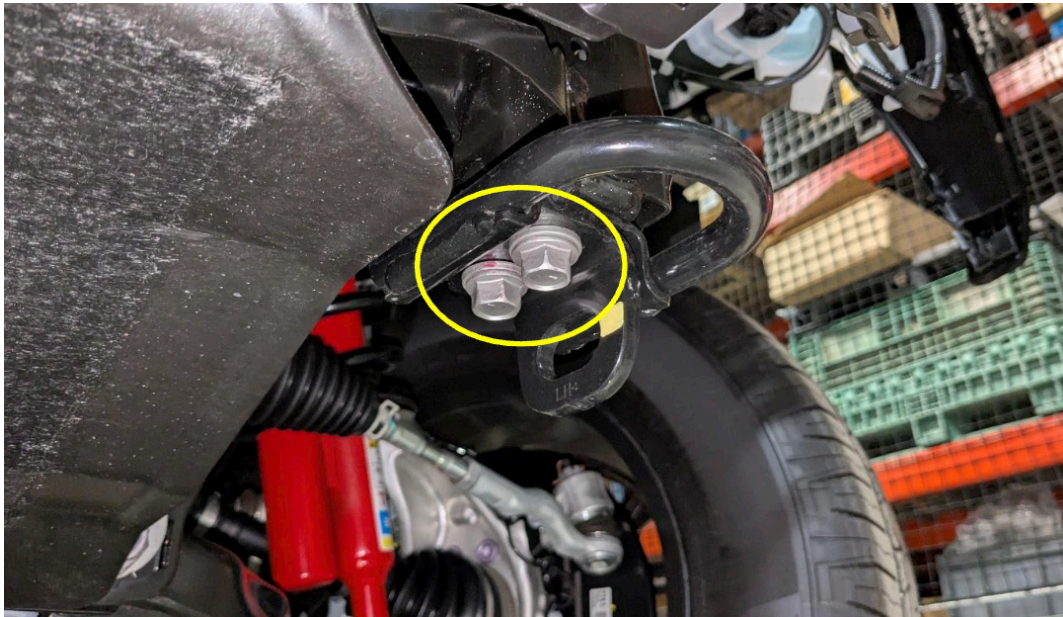

Figure 21
13. Using a 17mm socket wrench, remove the two (2) screws from each tow hook. (Figure 21)